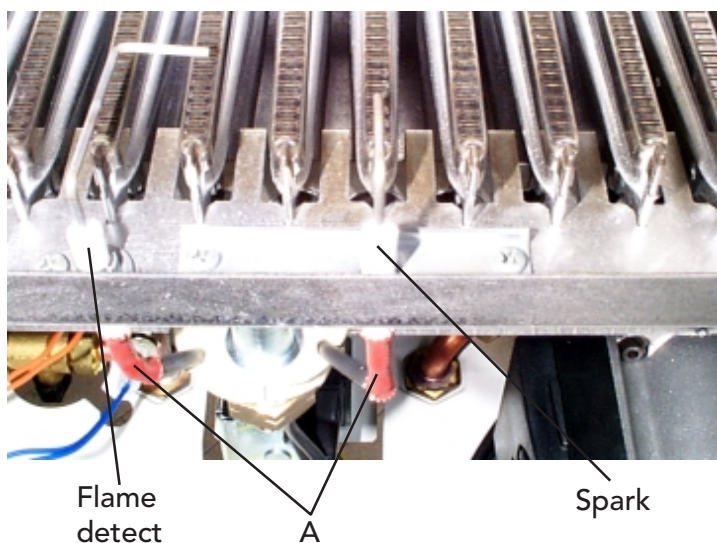

Fig. 43
## 7.12 Spark or flame detect electrode (fig. 43)
- Identify electrode from fig. 43